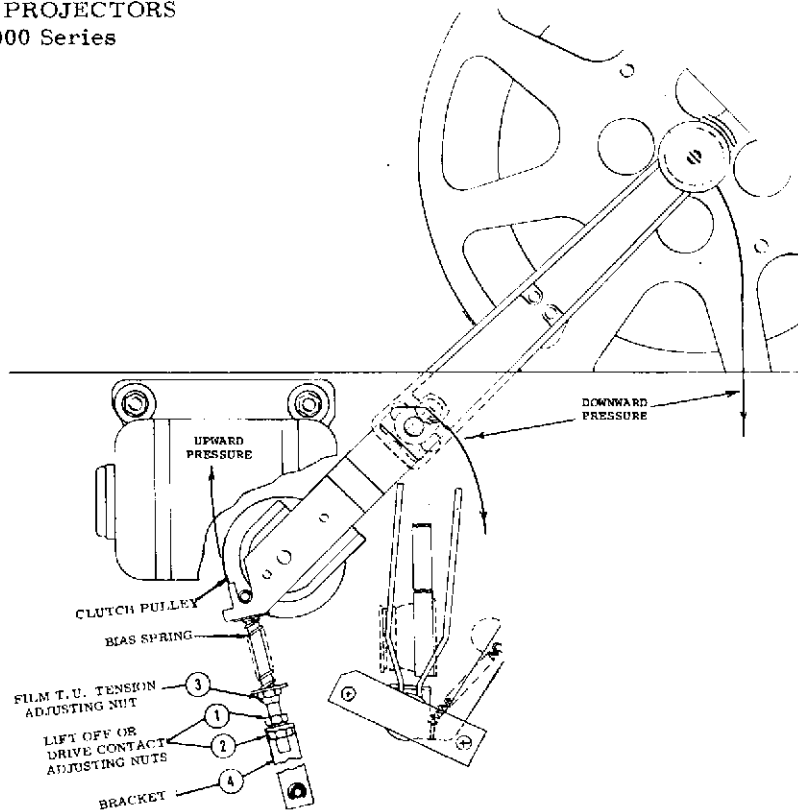

Figure 1-10. TAKE-UP CLUTCH WEIGHT COMPENSATION.
The mechanism is self-adjusting during the entire take-up cycle of any given film because of the way the take-up reel arm (9) is attached to the take-up clutch arm (20). (Figure 1-9). The shaft of the take-up reel arm passes through a hole in the upper portion of the take-up clutch arm. A roll pin (10) is inserted in a hole in the reel arm shaft and pushes down on the upper end of the clutch arm when the reel arm is allowed to rest in its normal upright position. Since the roll pin pushes down on the upper portion of the clutch arm, it causes the clutch arm to pivot and push up on the lower portion. This means that the lower portion or the pulley is forced up against the liner which is inside the clutch gear. The more weight placed on the reel arm, the more downward pressure is exerted on the roll pin and upper portion of the clutch arm, resulting in more upward pressure on the clutch pulley forcing it to press harder against the liner. This results in more friction between the clutch liner and the pulley producing a greater amount of drive. Thus, when the film take-up reel gets heavier because it is taking on more film, it forces the clutch pulley against the clutch liner producing the increased torque needed to drive the heavier reel. (Figure 1-10).